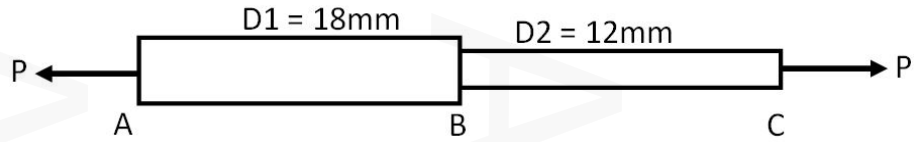

Figure 1
- 2 Define Factor of Safety. Calculate the working load on a cantilever beam if it carries an ultimate load of 100 kN with a factor of safety of 2. (3)
- 3 Use neat sketches to illustrate the concept of shear stress and shear strain. (3)
- 4 Define Poisson's ratio. Also state the relationship between the elastic constants. (3)
- 5 Define Bending moment and Shear force. (3)
- 6 What do you mean by point of contraflexure? State its significance. (3)
- 7 Write the equation of simple bending and state each term involved in it. (3)
- 8 Using the case of a simply supported beam with constant width, illustrate the concept of beams of uniform strength. (3)
- 9 Define the terms: Principal stress and principal planes. (3)
- 10 What is slenderness ratio? State its significance. (3)
- 11 The steel bar shown fig:1 has the following dimensions: (14)